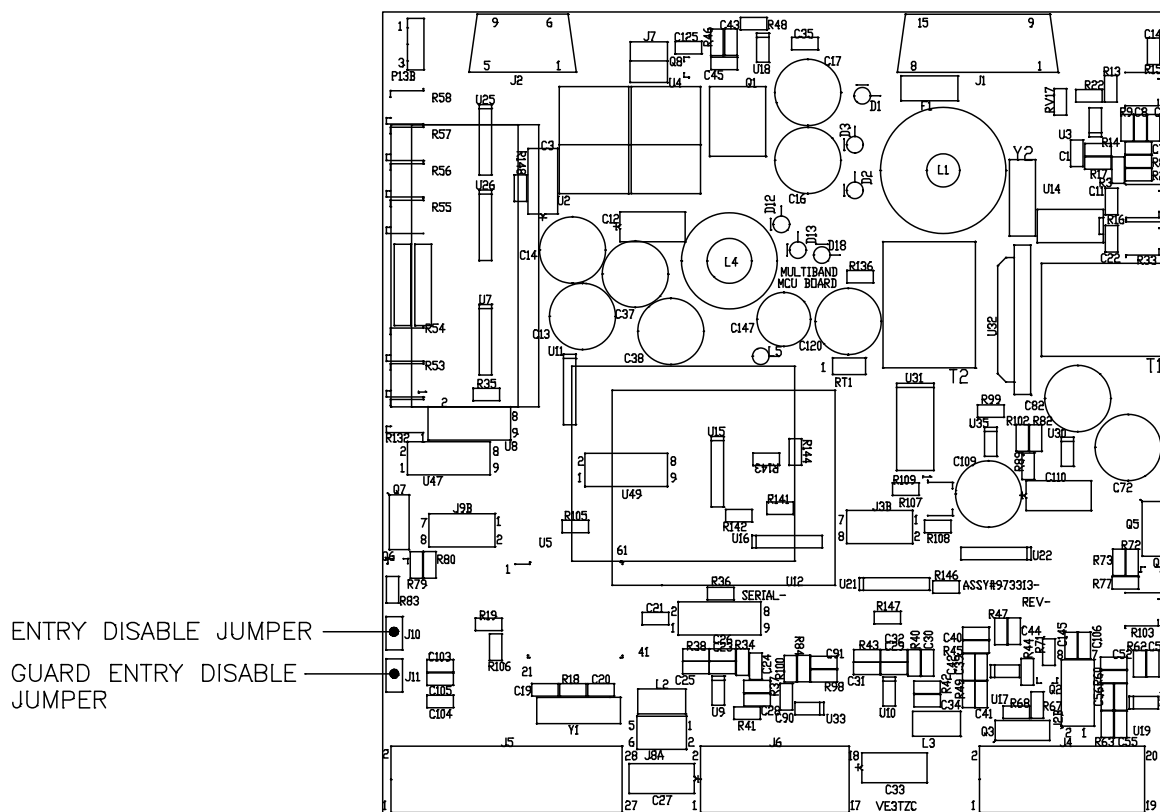

FIGURE 3.3 Internal Enable/Disable Jumper Locations
3. In low power mode, set the low power adjustment potentiometer on the left side of the chassis to produce 1.0 watt of RF output power (See Figure 3.3).